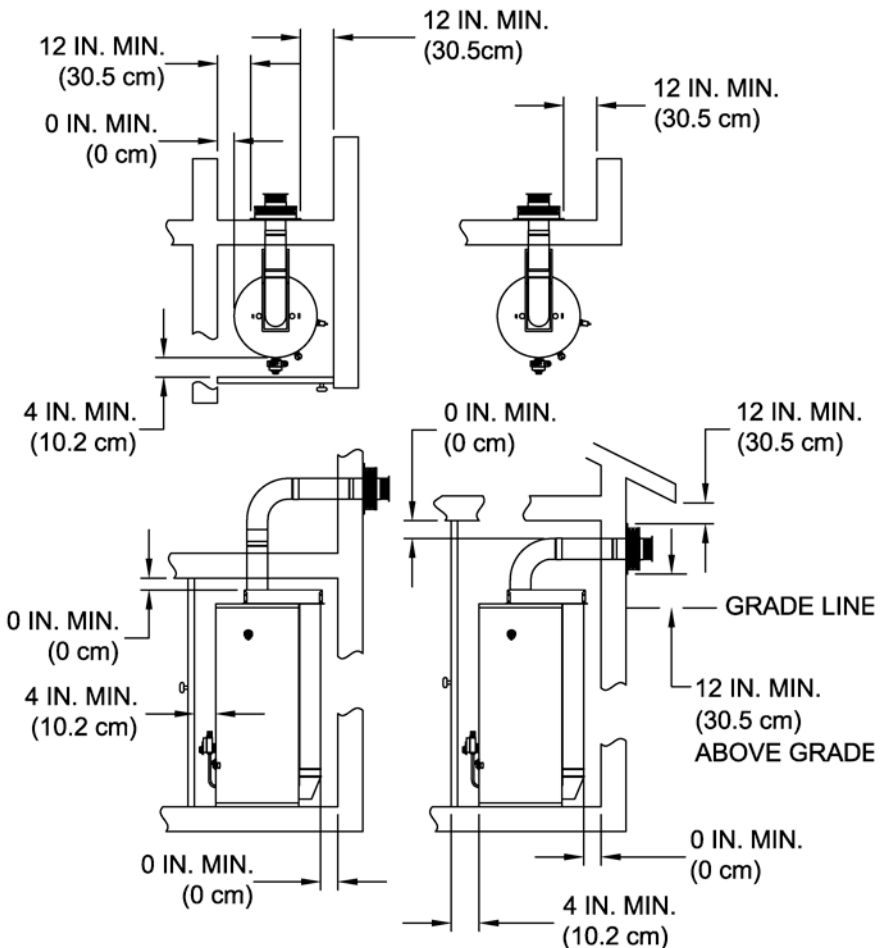

Figure 1
This installation must allow access to the front of the water heater and adequate clearance must be provided for servicing and operating this water heater. The water heater may be installed on either a combustible or non-combustible floor. If the water heater is to be installed directly on carpeting, it must be installed on top of a metal or wood panel extending beyond the full width and depth of the appliance by at least three (3) inches (76.2 mm) in any direction or, if the appliance is to be installed in an alcove or closet, the entire floor must be covered by the panel. The minimum clearances to combustibles for this water heater is: zero (0) inch (0 cm) from the sides and rear, four (4) inches (10.2 cm) from the front of the jacket, zero (0) inch (0 cm) from the plenum, zero (0) inch (0 cm) from the air intake tubes and twelve (12) inches (30.5 cm) from the direct vent-air intake terminal, increase distances to provide clearance for servicing. (See Figure 1). Increase distances to provide clearance for servicing.